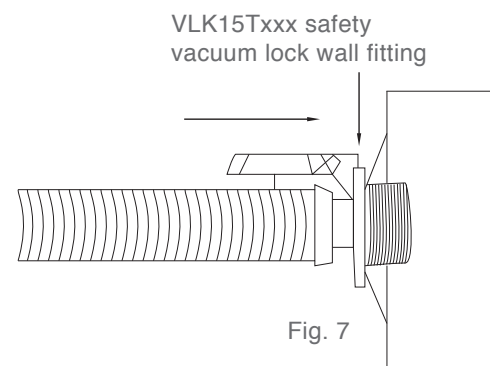

Fig. 7
- C. Without the skimmer cone and regulator valve – insert the male end of the hose directly into the safety vacuum lock wall fitting port – with a three-way or ball valve (see Fig. 7)
Lack of/improper water flow through cleaner	Check and adjust water flow per step 3, Figs. 7, 8, 9, 10